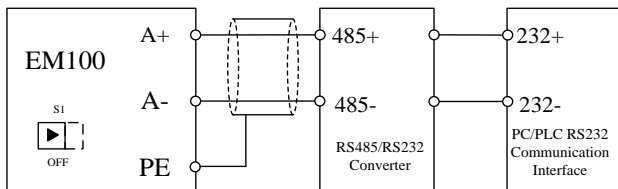

Figure 3-21 Connecting Inverter to PC/PLC via RS485/RS232 Converter
3. Refer to the Figure 3-21 for connecting inverter to PC/PLC via RS485/RS232 converter